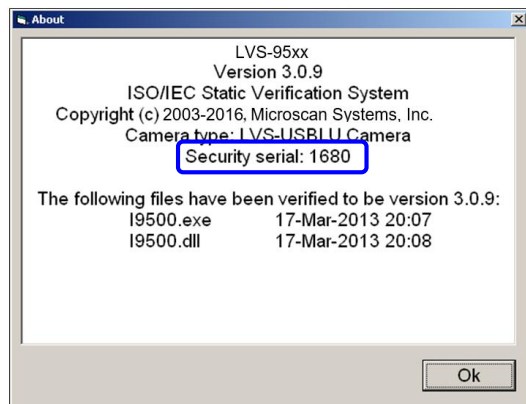

Figure 31: Security Serial Number
3. Locate the Security Serial number (Figure 31) and provide this number to a Microscan distributor or Microscan Headquarters via e-mail or phone.